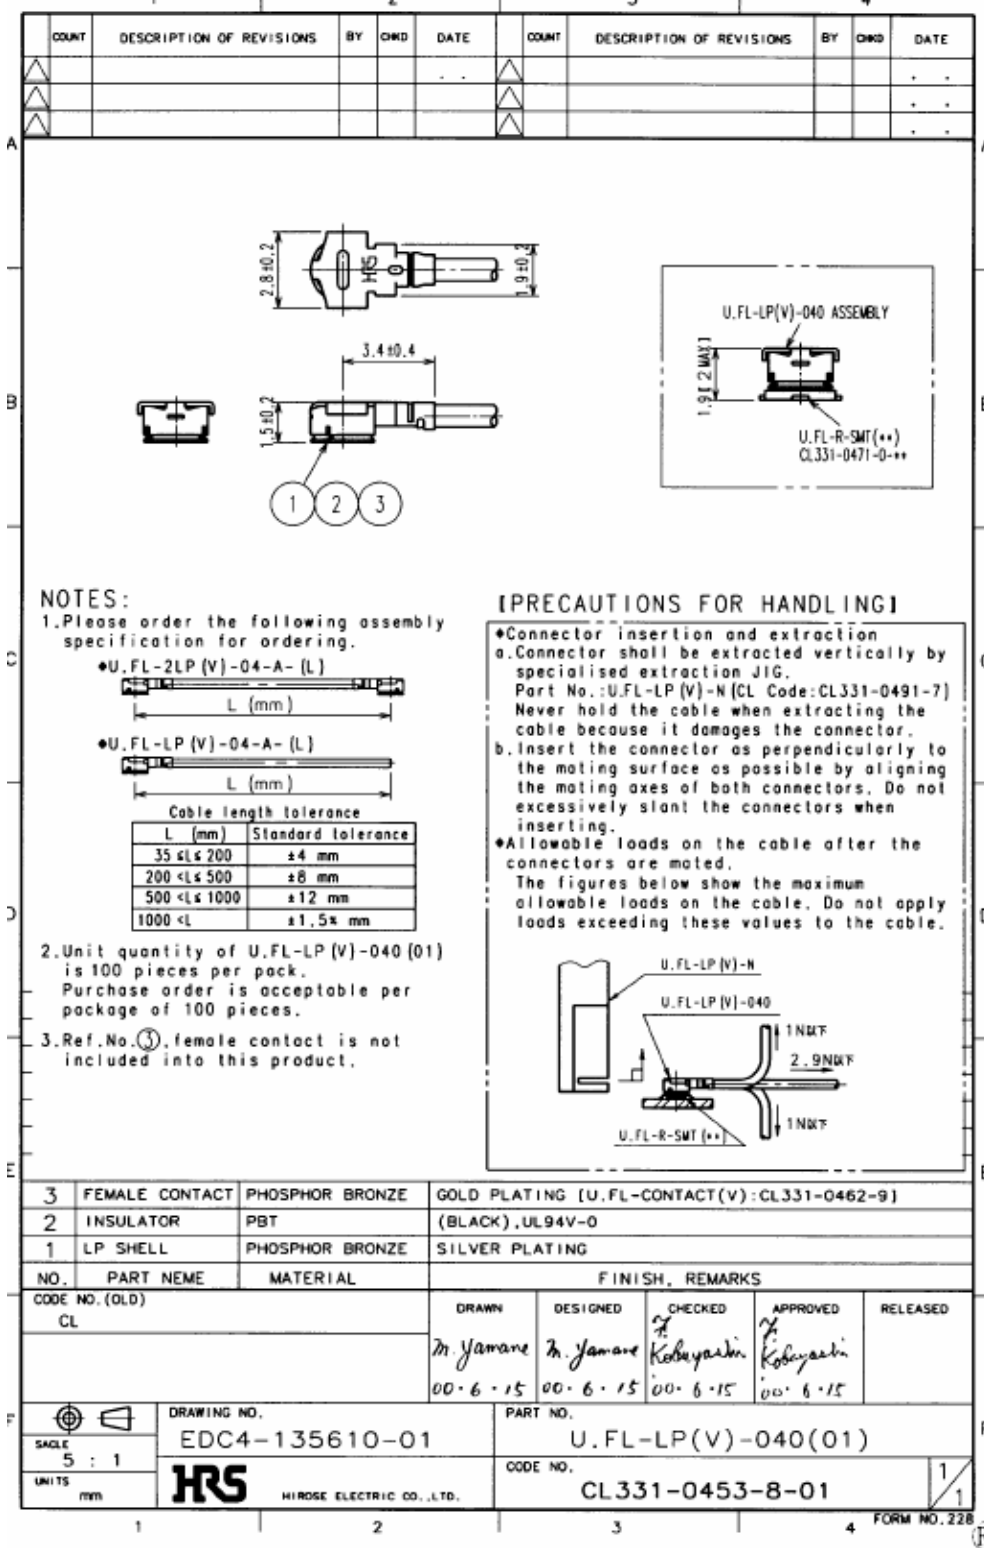

Figure 43: Specifications of U.FL-LP-(V)-040(01) plug
In addition to the connectors illustrated above, the U.FL-LP-(V)-040(01) version is offered as an extremely space saving solution. This plug is intended for use with extra fine cable (up to  $\varnothing 0.81\text{mm}$ ) and minimizes the mating height to 2mm. See Figure 43 which shows the Hirose data sheet.